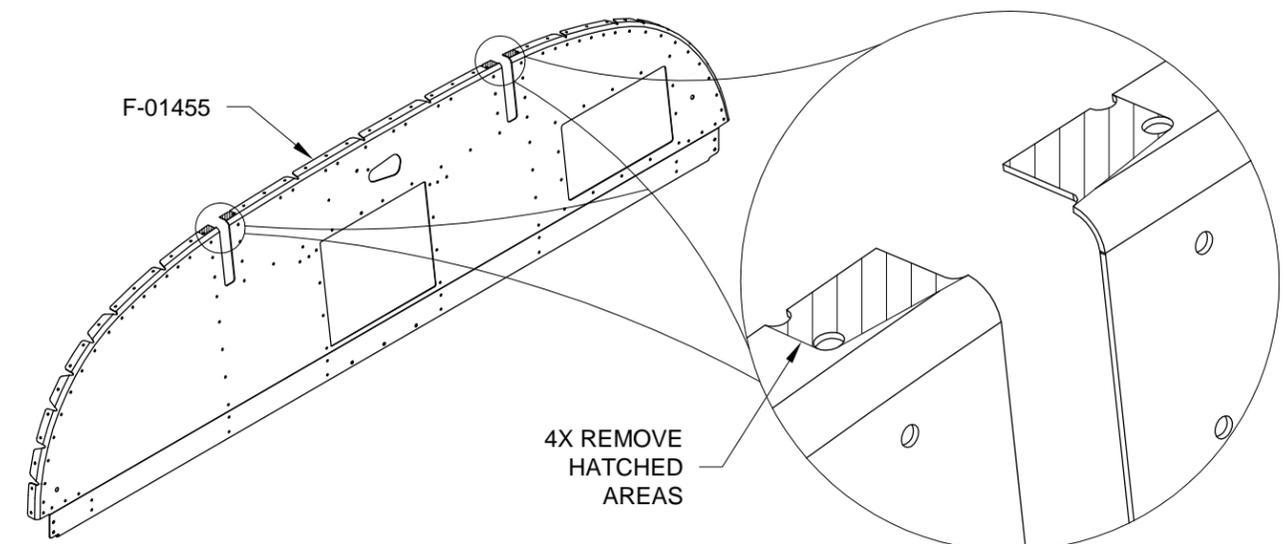

FIGURE 4: TRIM THE SUB PANEL
Step 10: Remove the hatched areas from the F-01455 Sub Panel as shown in Figure 4.